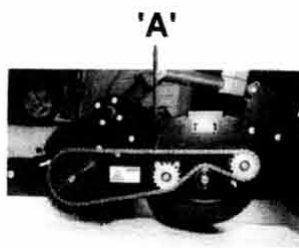

FIGURE 2c
- 8 Remove both Chain guard covers (#10) and check chain tension. Chain shown have between 1/2" to 1" deflection at point "A" as shown in (fig. 2c) to get the desired chain deflection. Replace Chain Guard covers (#10)
4. Periodically it is recommended to remove the chain guard cover (#10) and check for debris buildup..clean as required. At this time check the chain (#45) deflection and adjust as required per(fig. 2c). It is recommended not to grease the chain but instead apply a light coat of a dry silicone spray lubricant.. this will minimize dirt buildup on the chain drive components.